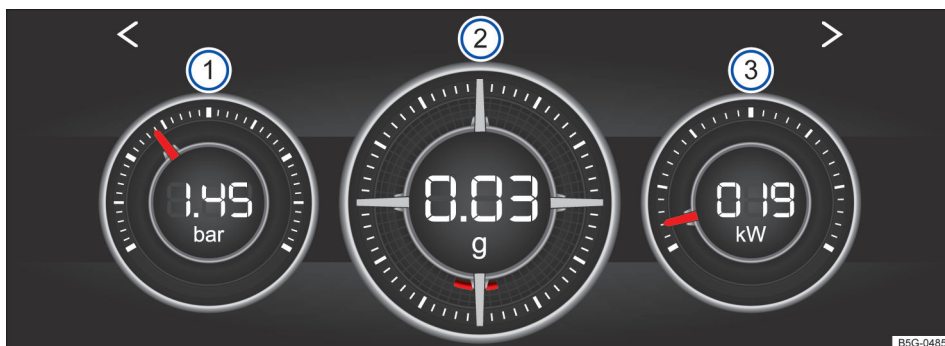

Fig. 18 In the Infotainment system: Performance Monitor sport gauges (if equipped). Gauges shown in the display may vary depending on configuration.
- Boost pressure gauge fig. 18 ①
- Accelerometer (g-meter) fig. 18 ②
- Power display fig. 18 ③
The boost pressure gauge → fig. 18 ① shows the pressure in the boost pressure duct between the turbocharger and the engine (shown in bar or psi, depending on the units selected). The farther right the needle points on the gauge, the higher the pressure in the boost pressure duct and the greater the output from the engine.
The accelerometer, or g-meter → fig. 18 ②, shows the current vehicle acceleration in the center display (shown in g).
The power display → fig. 18 ③ shows the current engine power output on both a gauge and a digital display (shown in kilowatts).